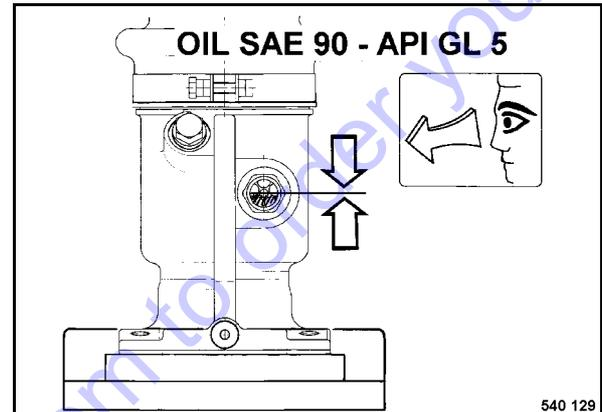

Fig. 43
- Clean the sight glass (Fig. 43).